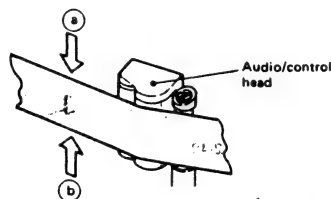

Fig. 2-47 Audio head height check
3. Check that the audio CH-1 (LEFT) output level increase does not exceed 0.5 dB as the tape is lightly pressed down point (a) as shown in Fig. 2-47.